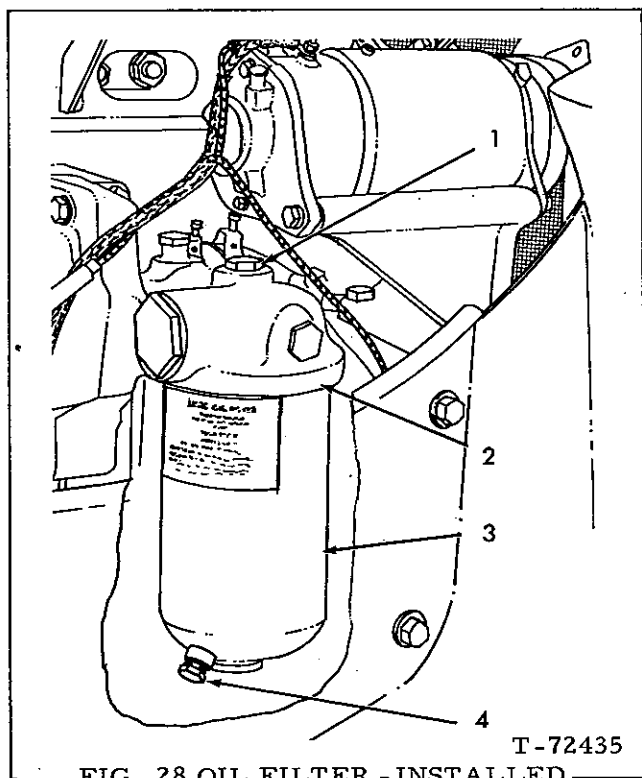

FIG. 28 OIL FILTER - INSTALLED
3. Service engine lubricating oil filter, Fig. 28 and 29, as follows: